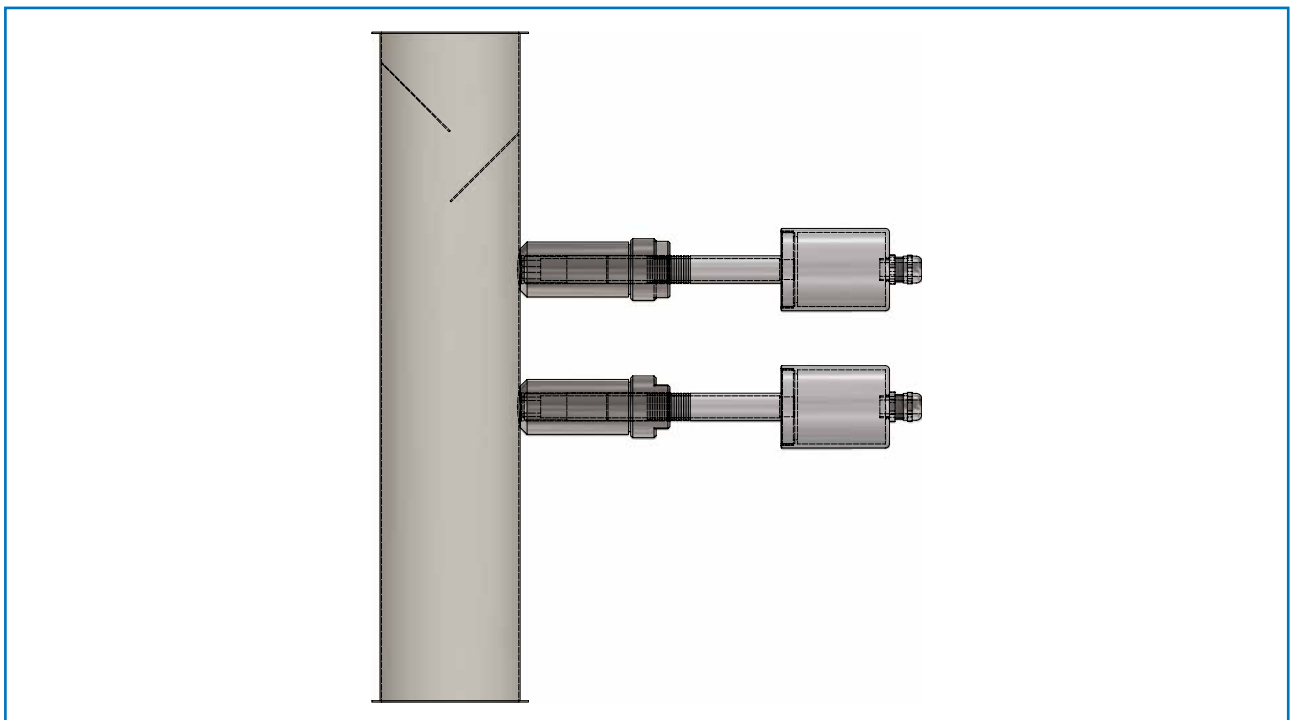

Fig. 7: Installing the sensor in the pipe
- ... and align it lengthwise to the pipe axis in accordance with the polarisation sticker (fig. 7). Then screw the measuring point tight with the union nut.